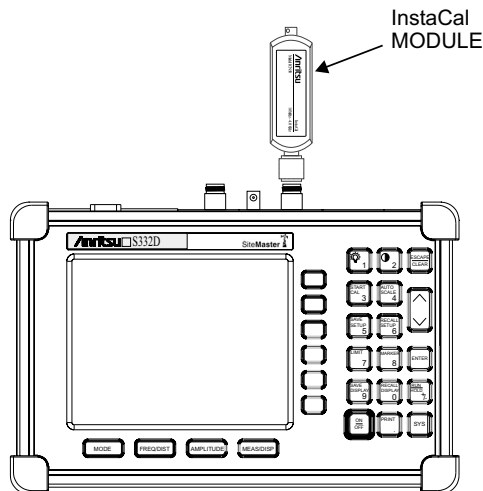

Figure 3-3. InstaCal Module Calibration
- Step 4.** Connect the InstaCal module to the RF Out port (Figure 3-3).
- Step 3.** Connect the InstaCal module to the RF Out port (Figure 3-3). The Cell Master automatically sets the frequency from 25 MHz to 4000 MHz.